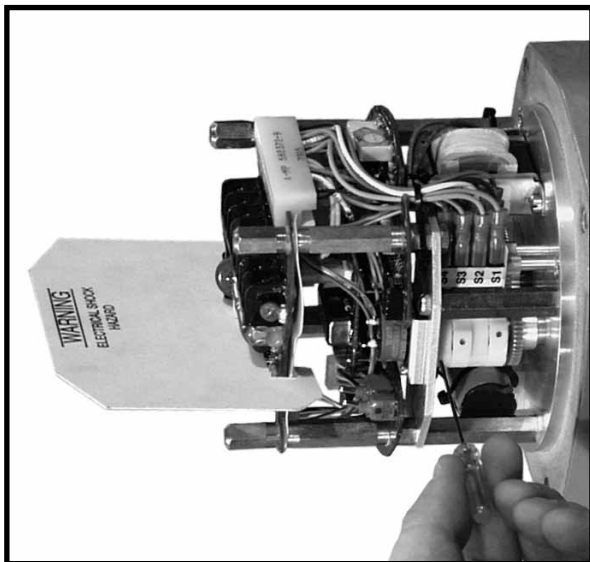

Figure 2
2. Extend/Retract the output shaft until the locking screw of the retract travel limit cam (second from top) is accessible. Using a 5/64" hex wrench, loosen the screw so that the cam is just snug on the shaft. See Figure 2, page 13.
2. Extend/Retract the output shaft until the locking screw of the extend travel limit cam (top switch) is accessible. Using a 5/64" hex wrench, loosen the screw so that the cam is just snug on the shaft. See Figure 2, page 13.
2. Extend/Retract the output shaft until the locking screw of the applicable auxiliary switch cam (labeled S1 or S2--closest switches to the drive body) is accessible. Using a 5/64" hex wrench, loosen the screw so that the cam is just snug on the shaft. See Figure 2, page 13.